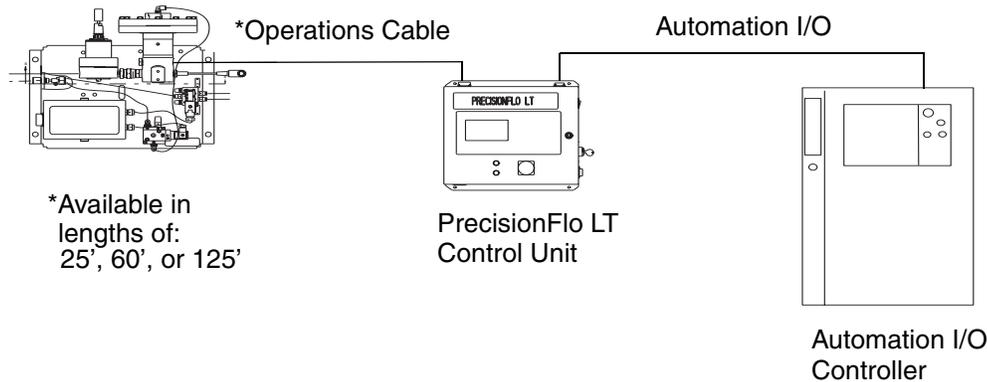

FIG. 9
1. Locate the receptacle on the top of the control unit. See FIG. 9.